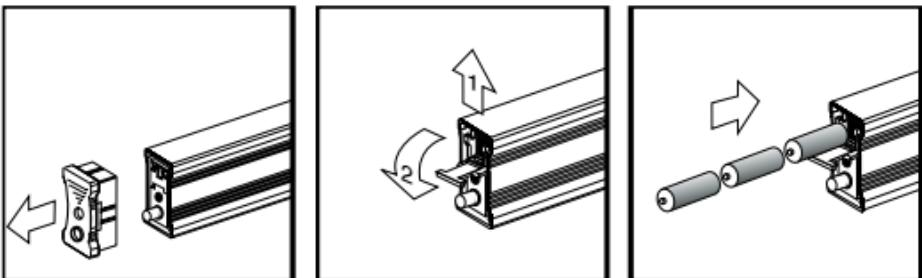

Figure 16: Replacing the Batteries in the Laser Module
- Remove the dead batteries and insert the new batteries, negative (-) end side first, and close the battery compartment cover (Figure 16 below).